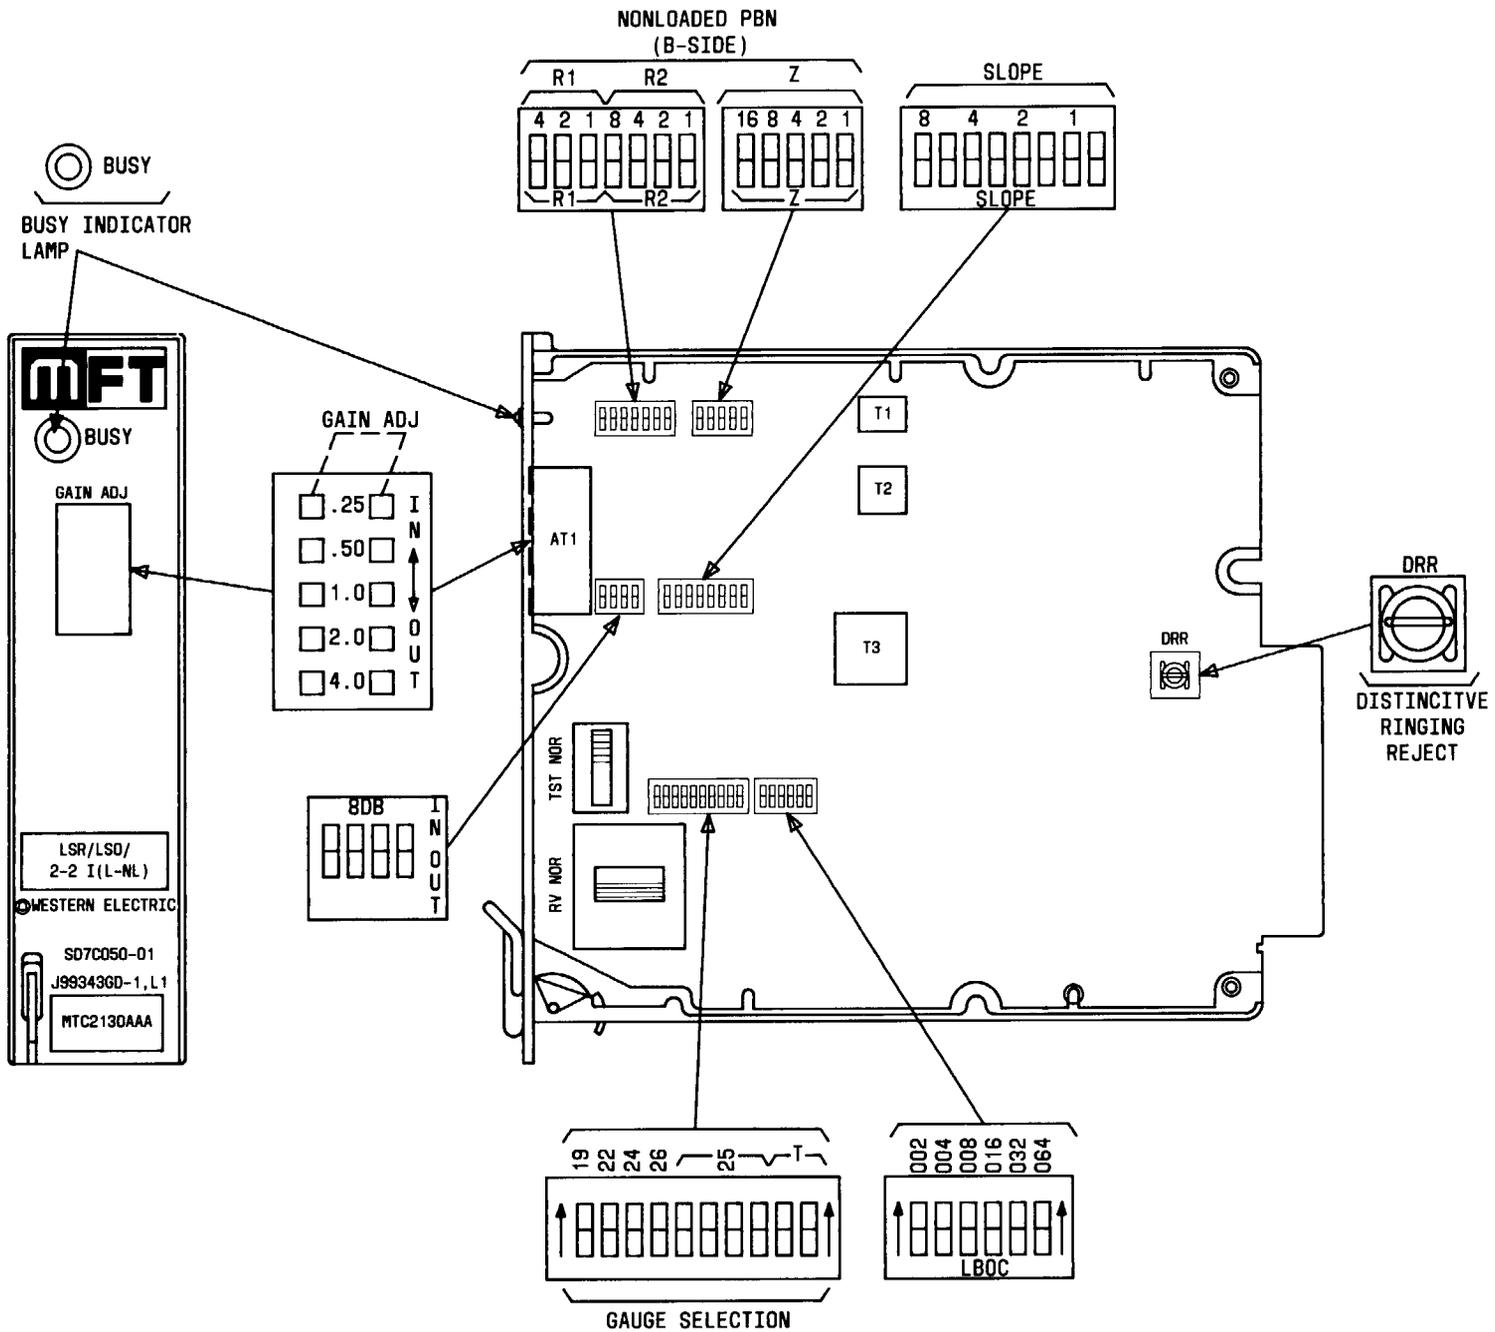

Fig. 1—J99343GD CFU
3.08 Application guidelines for the J99343GD CFU are given in the descriptive Section 332-912-155. Figure 1 is a pictorial drawing of the J99343GD CFU showing the location of all switches needed for the installation of the unit.
4.02 The LBOC settings of the J99343GD CFU are controlled by six miniature switches (see Fig. 1) on the printed wiring board. These switches are labeled 002, 004, 008, 016, 032, and 064. These numbers indicate the capacitance value added when the switches are operated toward their labeled designations. For example, the switch labeled 004, when operated, applies 0.004 μF of capacitance across the 2-wire facility on the A-side. The capacitance of the LBOC is additive; for example, if the switches labeled 002, 006, and 016 are operated, 0.024 μF of capacitance is added to the A-side facility.
5.04 Adjustment of the PBN for the transformer hybrid on the B-side is done through the operation of twelve switches located on the printed wiring board. The switches are labeled as follows: three switches labeled R1 (designated 4,2,1); four switches labeled R2 (designated 8,4,2,1); and five switches labeled Z (designated 16,8,4,2,1). (See Fig. 1.)
6.01 The J99343GD CFU contains integrated circuits which provide gain and equalization for each direction of transmission. Five miniature switches located on the front panel (see Fig. 1) of the J99343GD CFU and four rocker switches located on the printed wiring board (labeled 8 dB) control the gain which is applied simultaneously to both directions of transmission. The five miniature gain switches on the front panel are labeled 4, 2, 1, 0.5, and 0.25, which correspond to gain in dB set by operating the switch(es) to the IN position. The four 8-dB rocker switches are used to control the 8 dB of gain. When all four switches are operated